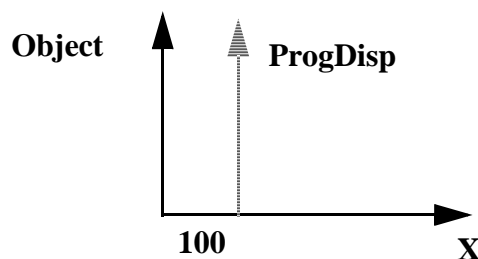

Figure 12 A 100 mm-program displacement along the x-axis.
- The ProgDisp coordinate system is displaced 100 mm from the object coordinate system, in the direction of the positive x-axis (see Figure 12).